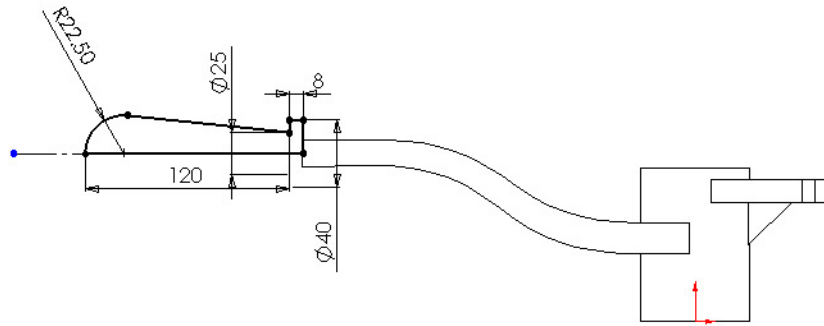

Figure 18 Lever handle profile.
2. Sketch and dimension the profile as shown in Figure 18.